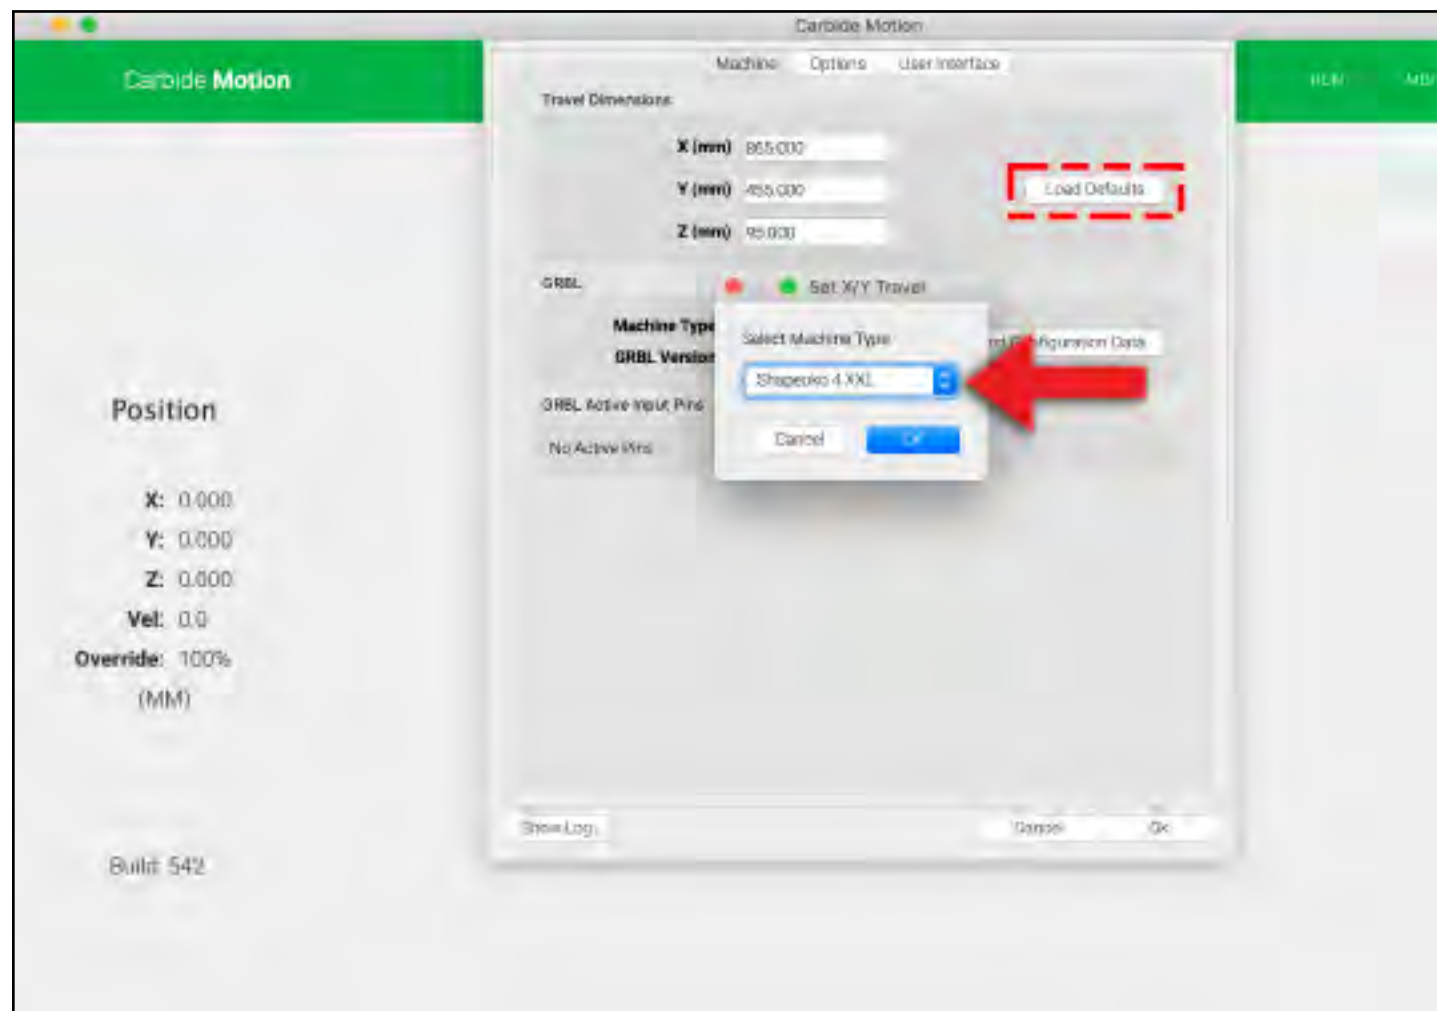

Figure 10-4
6. Once the configuration settings finish sending, click the **Load Defaults** button at the top of the *Settings window*. See **Fig. 10-4**.
7. In the *Set X/Y Travel* popup, select “**Shapeoko 4 XXL**” from the dropdown list, and click **OK**. See **Fig. 10-4**.